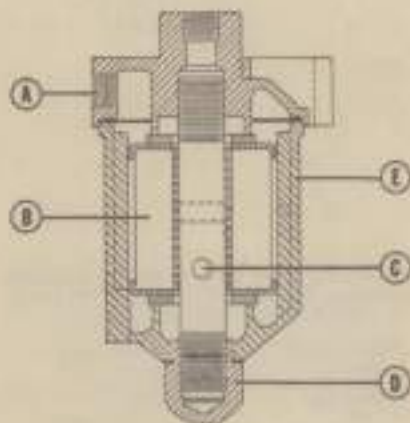

Fig. 63 — Cross sectional view of the LP-Gas filter.
**106.** The filter (Fig. 63) used in this system is subjected to and should be able to stand high pressures without leakage. When major engine work is being performed, it is advisable to remove the lower part of the filter, thoroughly clean the interior and renew the felt cartridge if same is not in good condition.